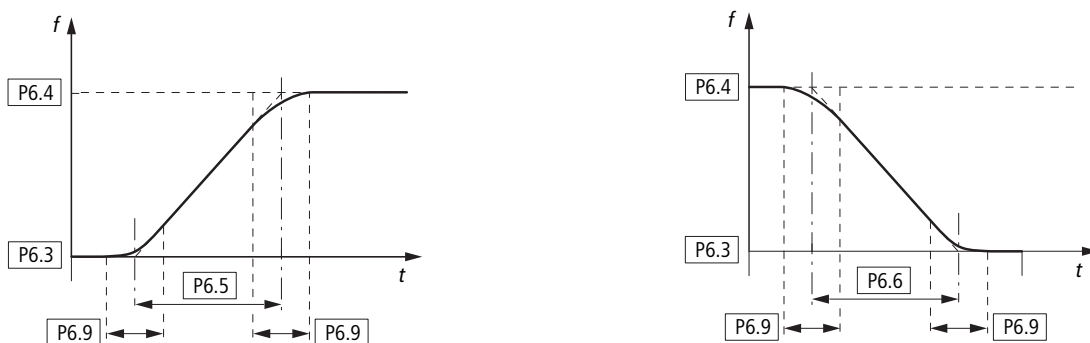

Figure 87: S-formed curve for acceleration and deceleration ramps
0.1 - 10.0 s	Time-graded transition to start and end of the acceleration ramp (P6.5) and deceleration ramp (P6.6). The time set here applies for both ramps (→ Figure 87).